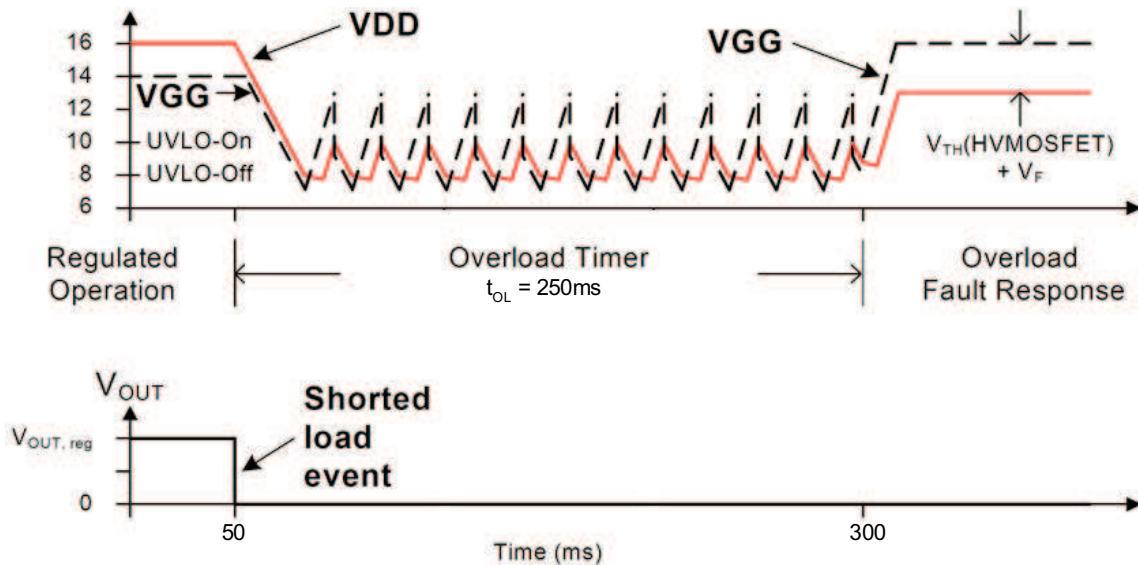

图 32. Overload Behavior with a Shorted Output
The UCC28610 reacts with the programmed overload response if the overload lasts longer than t_{OL} (nominally 250 ms). The overload fault responses are either (1) latch-off or (2) shutdown/retry after a retry delay of 750 ms. The overload response is programmed with the MOT pin. The forced DCM feature prevents transformer saturation and limits the average and RMS output currents of the secondary winding of the transformer. Even under short circuit load conditions, the output current of the transformer is limited to the levels that are shown in 公式 16, where N_{PS} is the primary-to-secondary turns ratio. Typical behavior for a shorted load is shown in 图 32.